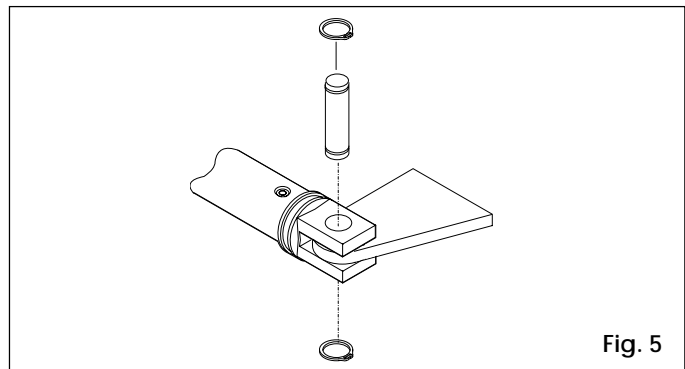

Fig. 5
- 7) Fit the front bracket on the operator's removed stem as shown in fig. 5.